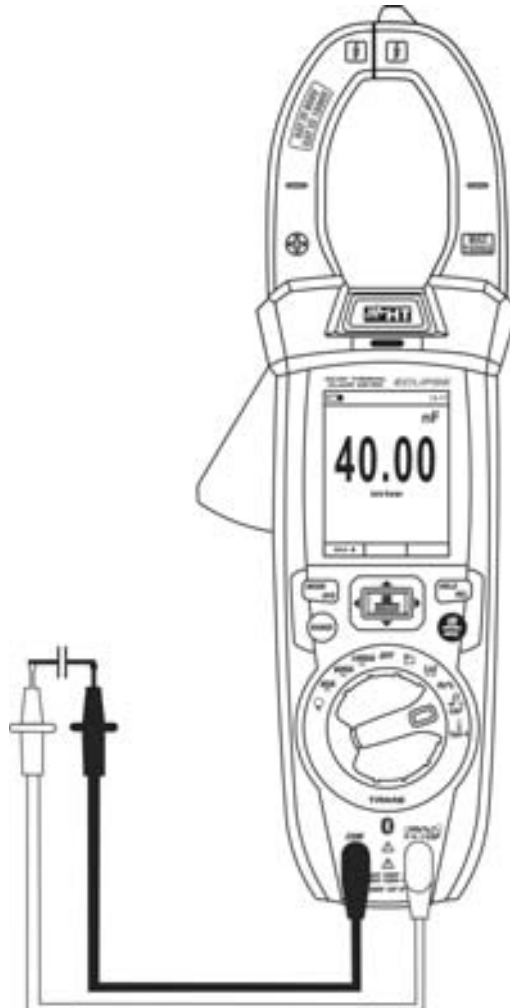

Fig. 29: Use of the instrument for Capacitance measurement
5. Position the leads at the ends of the capacitor to be tested, respecting, if necessary, the positive (red cable) and negative (black cable) polarity (see Fig. 29). The value is shown on the display. **According to capacitance, the instrument may take several seconds to display the correct final value.** The bargraph is not active in this function.